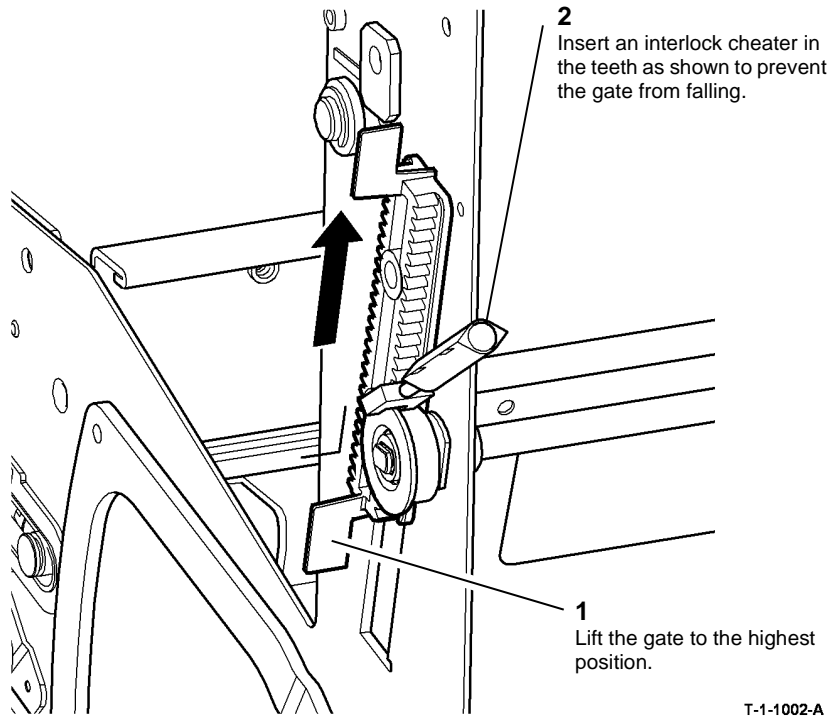

Figure 2 Lock the crease gate
10. Lock the crease gate in the open position, Figure 2.